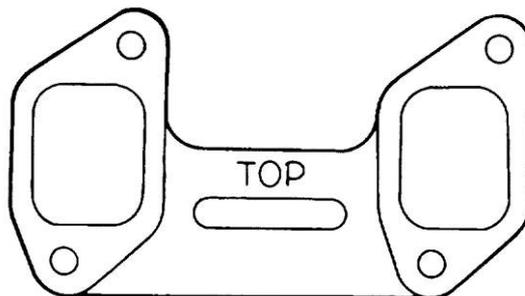

Figure 23 Installation of the Exhaust Manifold Gasket
- b. Position two new exhaust manifold gaskets on the cylinder head so that the word TOP is toward the manifold (Figure 23).